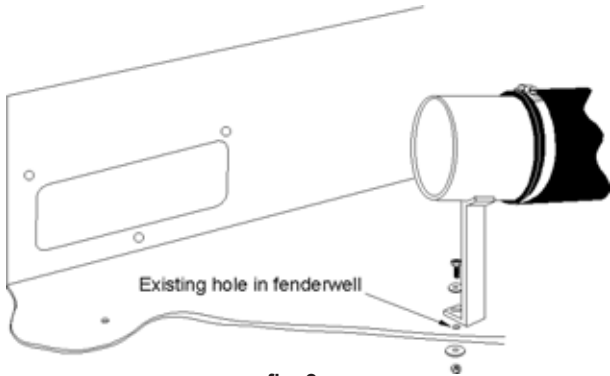

fig. 2
- 5) Slide the new filter adapter into the intake hose and secure it to an unused hole in the fenderwell. Do not tighten completely at this time. (see fig. 2)